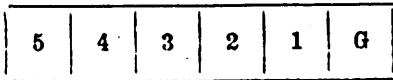

FIG. 1. FORMATION OF THE GUN SQUAD.
b. Ammunition Squad.—(1) An ammunition squad consists of an ammunition corporal and cannoneers as prescribed in Tables of Organization. These cannoneers are numbered consecutively, beginning with No. 1, and are assigned to the ammunition vehicles of the ammunition (fifth) section.
(2) Posts and movements prescribed hereinafter for the gun squad apply, with obvious modifications, to the ammunition squad.
5. *Formation.*—*a. Order of Formation.*—A gun squad is formed as shown in fig. 1. Higher-numbered cannoneers, if present, form in order on the left of No. 5.
b. To form.—(1) The place of formation is indicated and the command given thus, for example: 1. **IN FRONT (REAR) OF YOUR PIECES (CAISSONS)**, or 1. **ON THE ROAD FACING THE PARK**, 2. **FALL IN**. Each gunner repeats the command **FALL IN** and hastens to place himself, faced in the proper direction, at the point where the right of his squad is to rest. The cannoneers move at the double time and assemble at attention at their proper places. For the first formation of the gun squads for any drill or exercise, the caution "As gun squads" precedes the command. The chief of section, if present, supervises the formation.